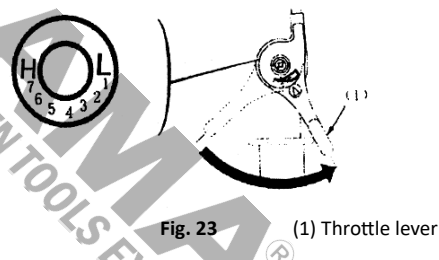

Fig. 23
- 2) Move the throttle lever fully to the right. (Fig. 23)